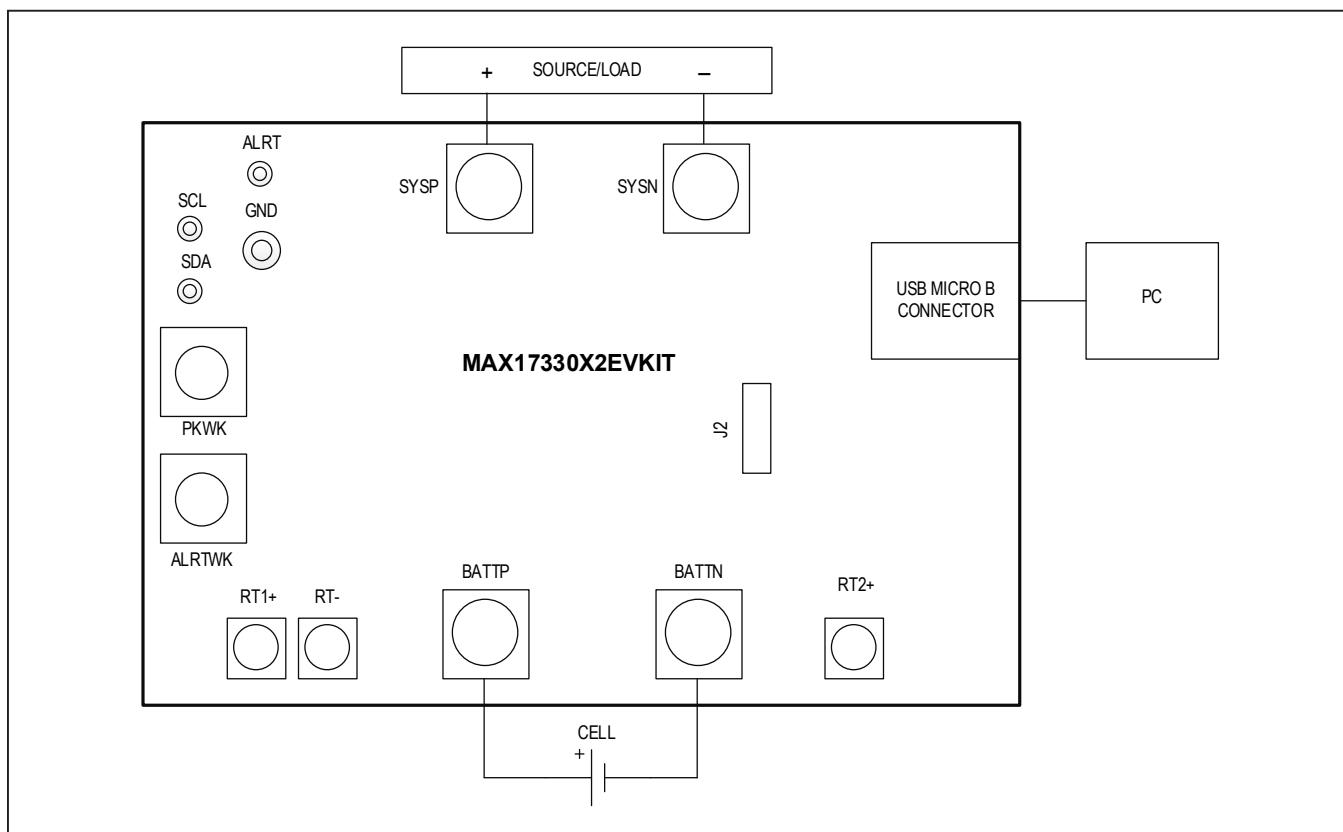

Figure 1. MAX17330 Board Connections
- 5) Make connections to the EV kit board based on Figure 1. The cell connects between the BATTP/ BATTN pads. The load or charger circuit can be connected between the SYSN and SYSP pads at this time as well.